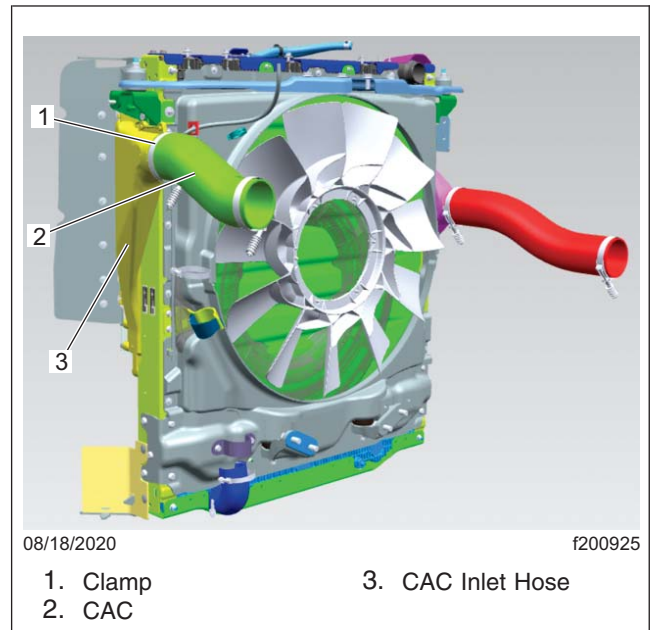

Fig. 8, CAC Hose, Left-Hand Side
9. Remove the left-hand side CAC hose. See **Fig. 8**.